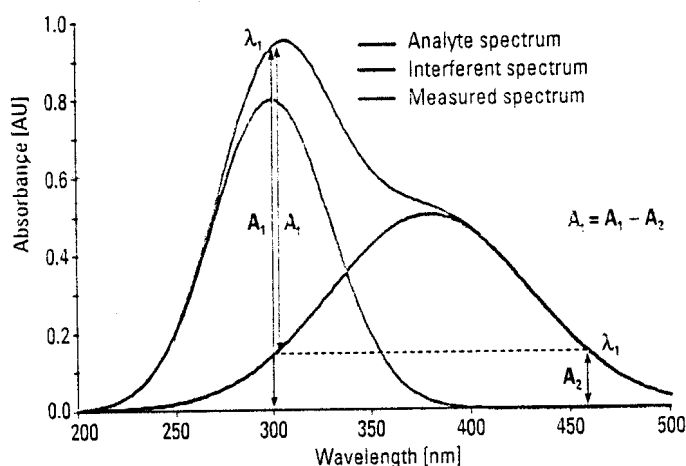

Fig A1 Isoabsorbance correction
5. Re-fit all the screws around the sides of the spectrophotometer, Fig. A1
When a known interfering component with a known spectrum is present, the error introduced by this component at the analytical wavelength for the target analyte can be eliminated by selecting a reference wavelength at which the interfering compound exhibits the same absorbance as it does at the analytical wavelength. The absorbance at this reference wavelength is subtracted from the absorbance at the analytical wavelength, as shown in Figure A1. The residual absorbance is the true absorbance of the analyte.